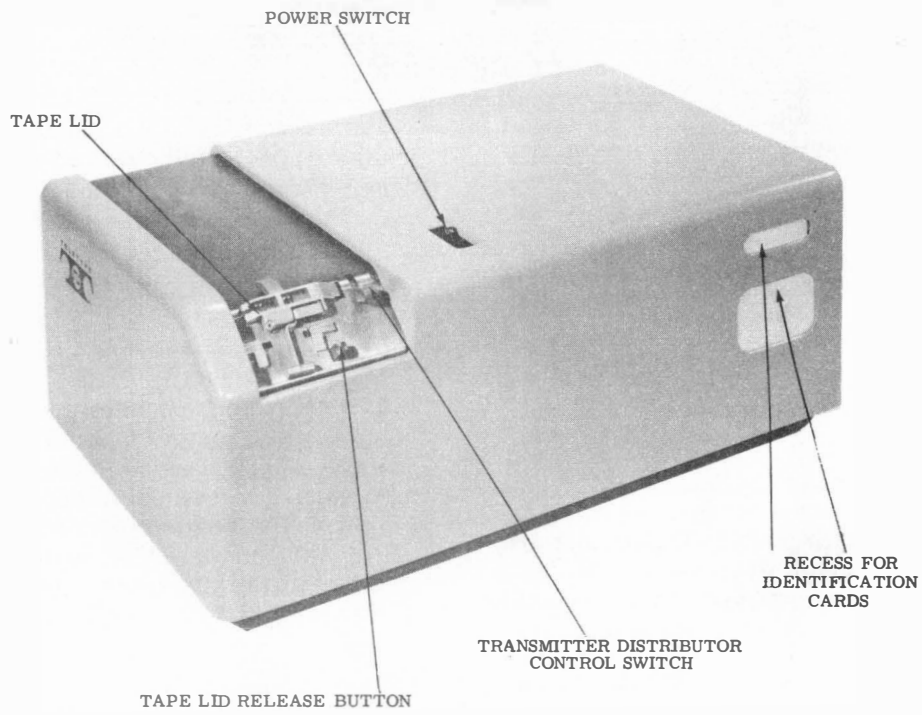

Figure 1 - 35 Transmitter Distributor Set
1.02 Three sets are described herein. Each is a complete self-contained set providing its own motive power requiring a 115-volt power line and a signal line, each of which must be brought in and wired into furnished connectors or terminal blocks when installation is made. See Figure 1 for typical set.
1.01 This section describes and outlines the principles of operation of the units which provide mounting facilities for 35 Transmitter-Distributor Sets. Different style bases are described herein including a compact unit with motor and other larger units which do not include a motor, but provide facilities for mounting a choice of motor units. Refer to Figures 1, 2 and 3.